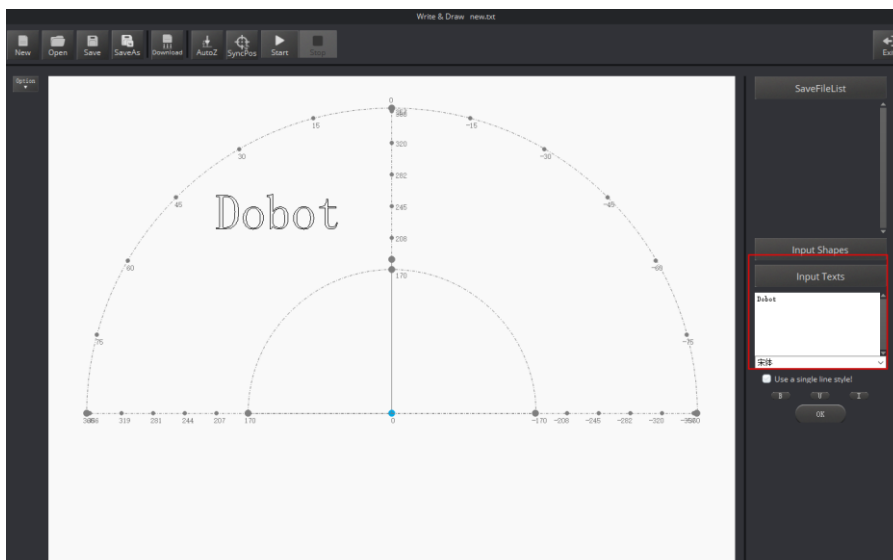

Figure 5.45 Input text
- Click **Input Texts** on the **Write & Draw** page to input texts, and set its style, and then click **OK** to display the text on the annular area, as shown in Figure 5.45.